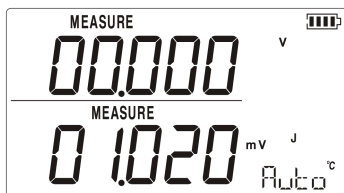

Figure 5.1-3
4. Press  to display the DC mV value reading as shown in Figure 5.1-3. The DC mV value continue to display for 3s and then automatically return to the original display.